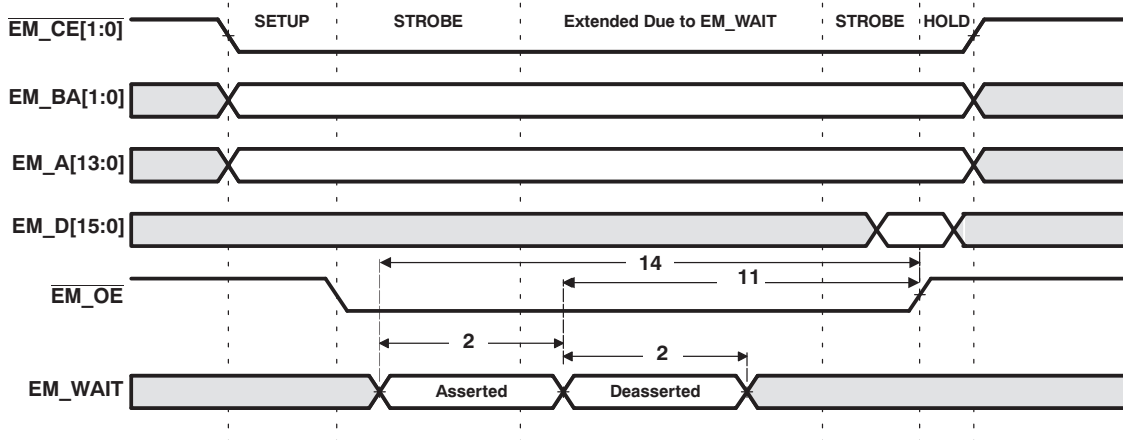
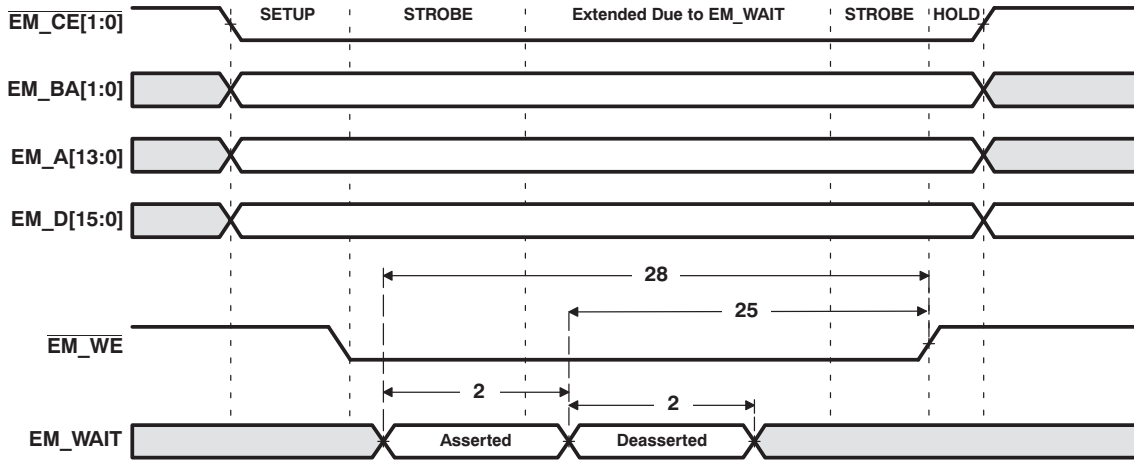

Figure 5-16. EM_WAIT Read Timing Requirements
Figure 5-17. EM_WAIT Write Timing Requirements
(1) E = PLLC1 SYSCLK2 period in ns. SYSCLK2 is the EMIF peripheral clock. SYSCLK2 is one-fourth the PLLC output clock. For example, when PLLC output clock = 432 MHz, E = 9.259 ns. See Section 3.5 for more information.
(2) Setup before end of STROBE phase (if no extended wait states are inserted) by which EM_WAIT must be asserted to add extended wait states. Figure 5-16 and Figure 5-17 describe EMIF transactions that include extended wait states inserted during the STROBE phase. However, cycles inserted as part of this extended wait period should not be counted; the 4E requirement is to the start of where the HOLD phase would begin if there were no extended wait cycles.